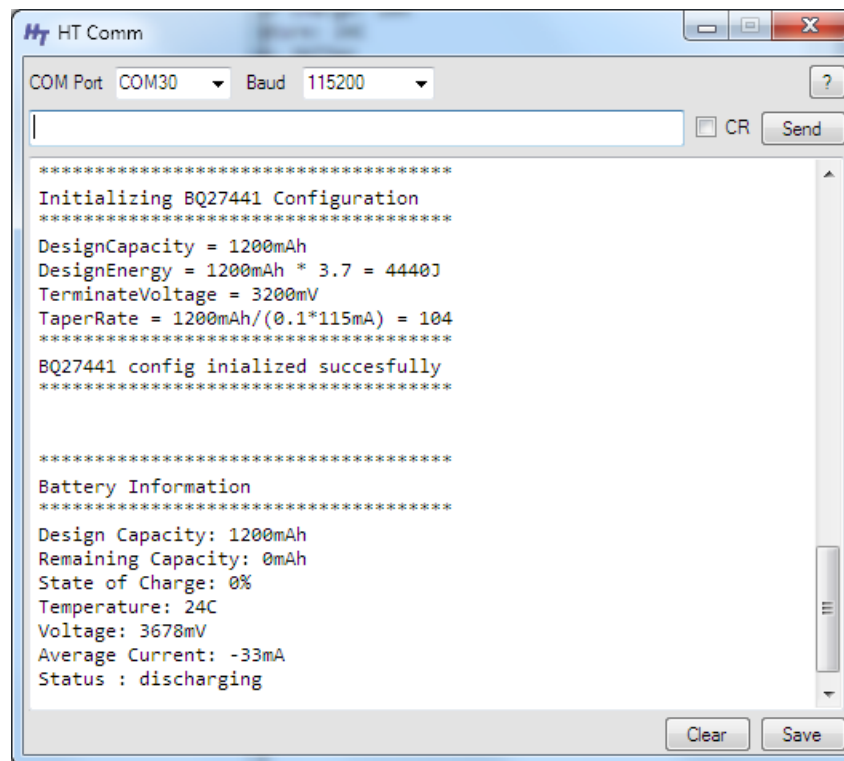

Figure 20. Snapshot of Serial Terminal Connected to Running Fuel Gauge Demo
6. Observe serial data displaying Fuel Gauge configuration and Battery Information (see Figure 20).